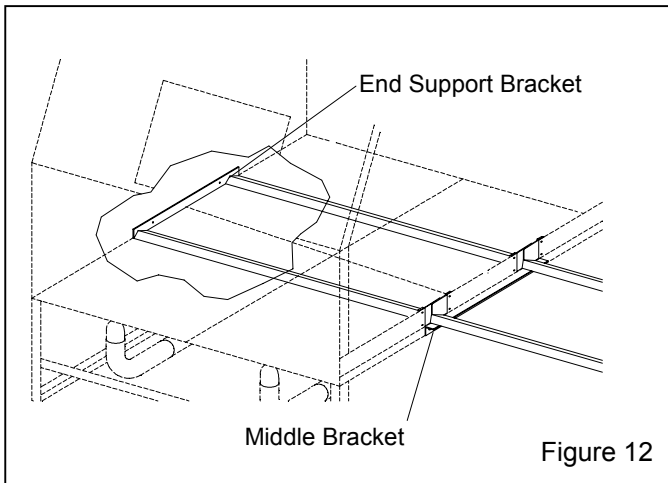

Figure 12
3.4.3.3 Push the track assembly to its final position; the end support bracket should be against the inside cabinet wall, and the middle bracket against the outside wall under the door opening, as shown in Figure 12.